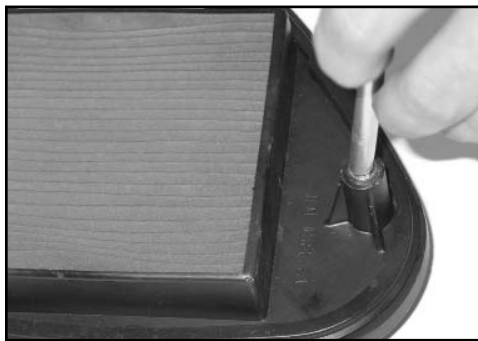

Fig. 1
- 3) With a hammer and punch remove the three OE spacers from the stock filter. See Fig.1